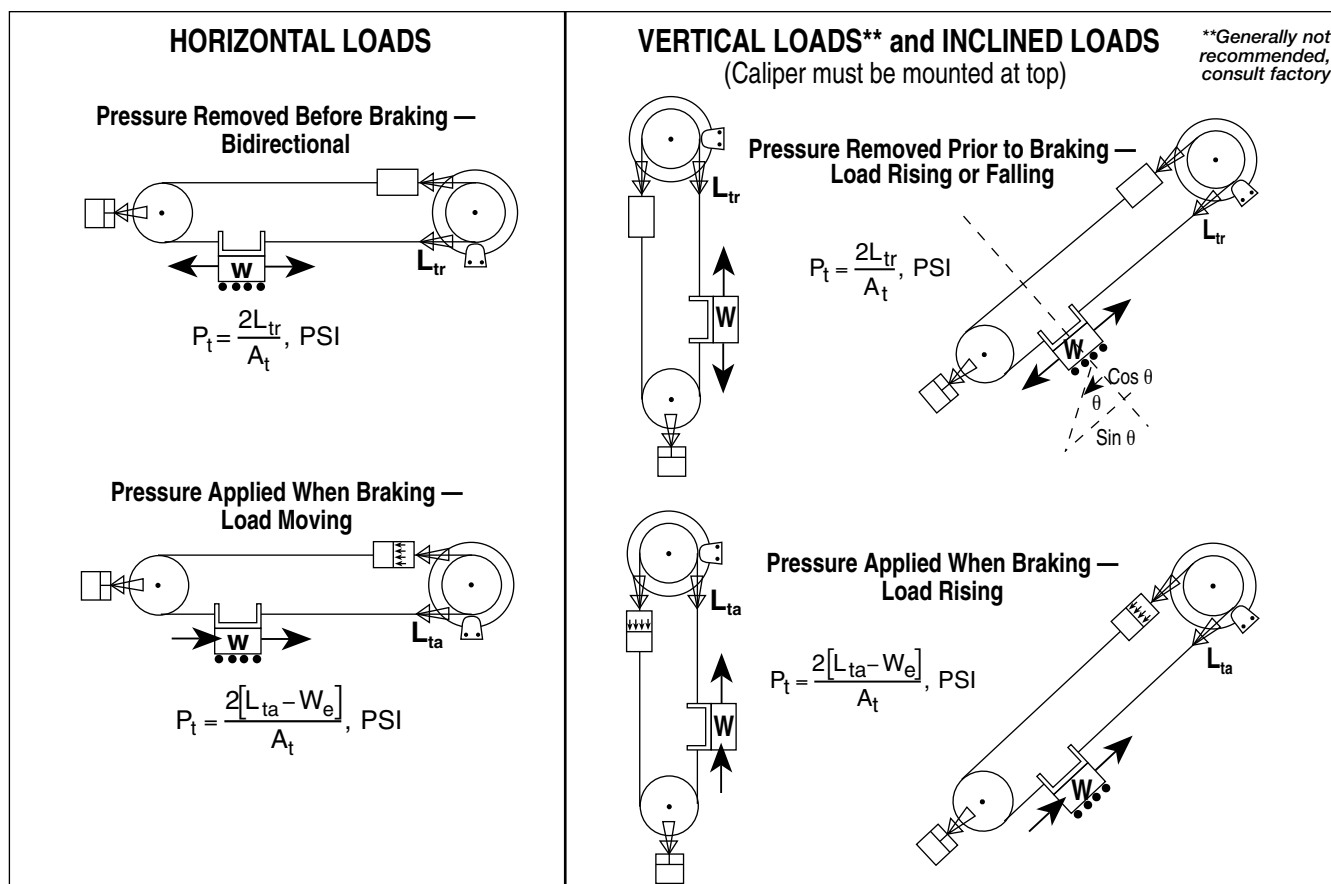

Figure 1
3. Calculate the tangential braking force required. This is (F_{tr}) when pressure is removed prior to braking, or (F_{ta}) when pressure is still applied when braking. Refer to illustrations in Figure 1.
5. Calculate tensioner pressure setting, (P_t) based on type of load configuration. See Figure 1 and Table 1